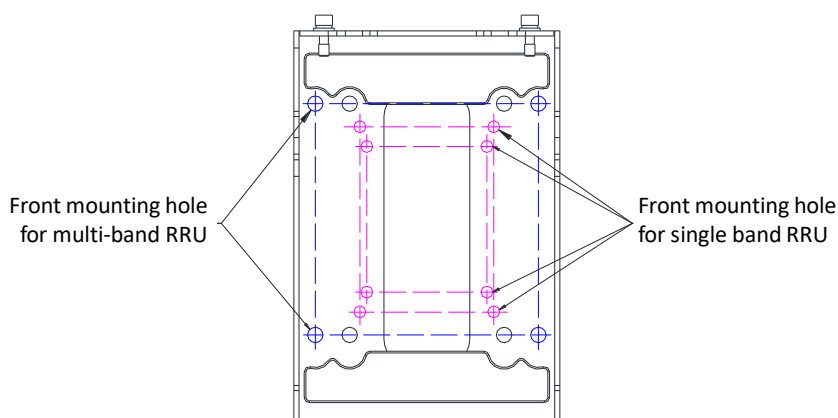
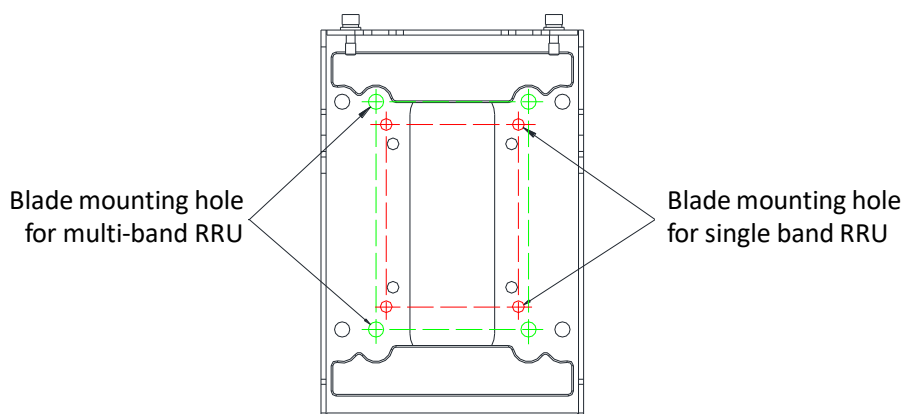

Figure 3.7-3 Bracket 1 Mounting Hole of Front Mount
Figure 3.7-4 Bracket 1 Mounting Hole of Blade Mount
Step 1: take out bracket 1; select the mounting holes to fix bracket 1 according to the installation requirements (front mount or blade mount). See Figure 3.7-3 and Figure 3.7-4